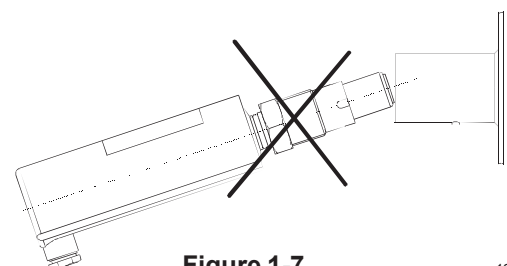

Figure 1-7
- Insert the transmitter in a straight line into the coupling (Fig. 1-7), so that the guide groove on the transmitter aligns with the stop pin on the coupling. The transmitter settles into position when the groove and pin are aligned, and will be prevented from rotating in the coupling.